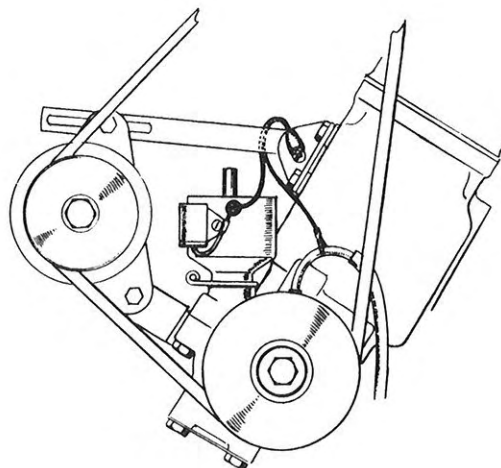

Fig. 7. Connecting test lamp.
13. Connect a test lamp between the distributor primary cable terminal and ground, see Fig. 7, and switch on the ignition current.